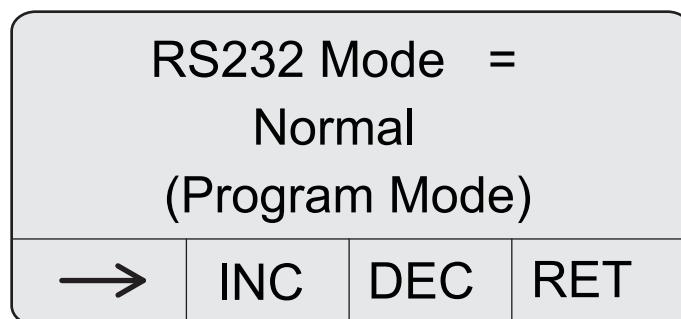

Figure 45 RS232 mode screen
1. Press 3 (SIO) on the main screen to display the RS232 mode screen (refer to Figure 45).